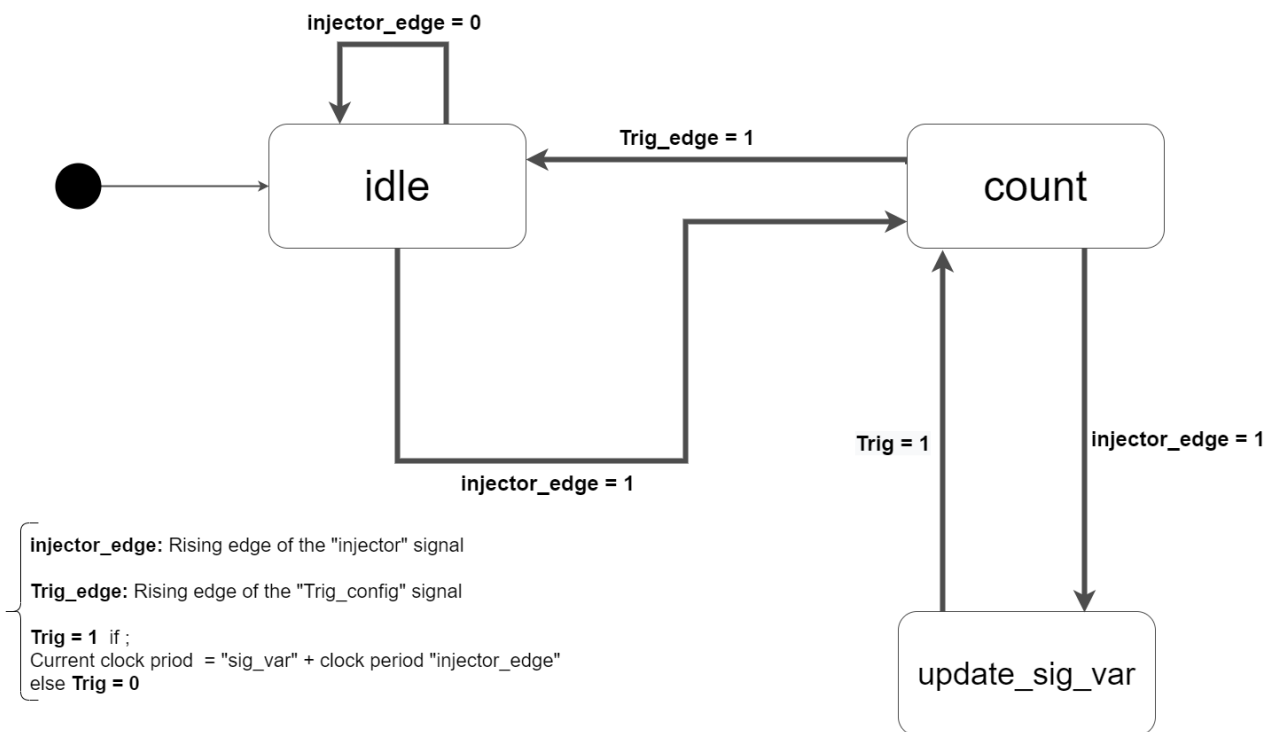

Figure. 4: Unit diagram glitch
This module is written using the state machine, the diagram of which is shown in Figure 4.
- The glitch inserted with width=5 and offset=1 in the faulty_output_clk signal is visible in the figure.4 .